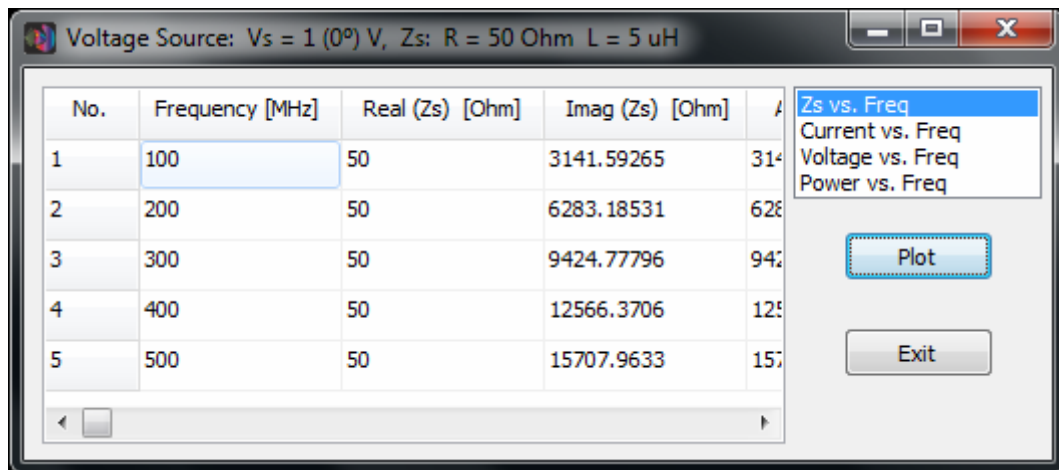

Fig. 13.8: The Source List dialog box.
If the selected segment has a source on it, the Source List button is enabled. Pressing this button displays the Source List dialog box, Fig. 13.8, which shows the list of currents, voltages and powers in the source internal impedance versus frequency. Clicking on an item in the list and pressing the Plot button will plot the selected item as a function of frequency.
4. Press the Source List button to display the Source List dialog box, Fig. 13.8. This dialog box shows the list of currents, voltages and powers in the internal impedance of the source versus frequency. Selecting an item from the list and pressing the Plot button will plot the selected item as a function of frequency.